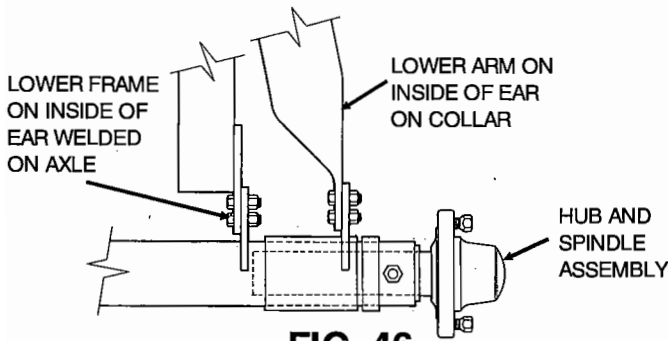
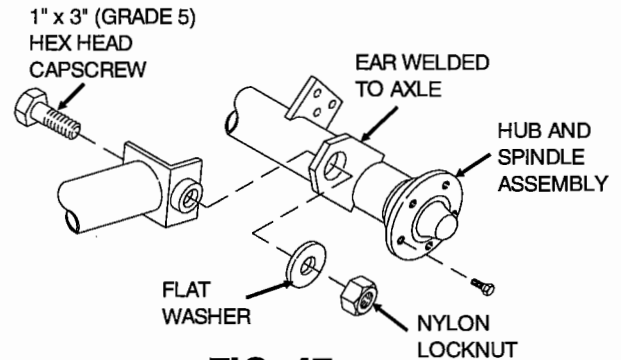

FIG. 46
FIG. 47
- Step 7. Lay out the lower arm under the auger housing. The end with the angle and one 1 1/2" dia. hole must be located near the lower mount on the auger housing. On 62' and 72' models only, the end with three 17/32" dia. holes will fasten to the axle. (See Fig. 46 on page 34.) On 82' models, the end with a bushed hole in the angle will fasten to the axle. (See Fig. 47 on page 34.)
Step 8. Fasten the lower arms to the axle ear brackets. On 62' and 72' models, use three 1/2" x 1 1/2" long (Grade 5) hex head capscrews and nylon locknuts for each leg. NOTE: The lower arm should be on the inside of the ear on the collar. See Fig. 46. On 82' models, use one 1" x 3" long (Grade 5) hex head capscrew, flat washer and nylon locknut for each leg. NOTE: The lower arm should be on the inside of the ear on the axle. See Fig. 47.